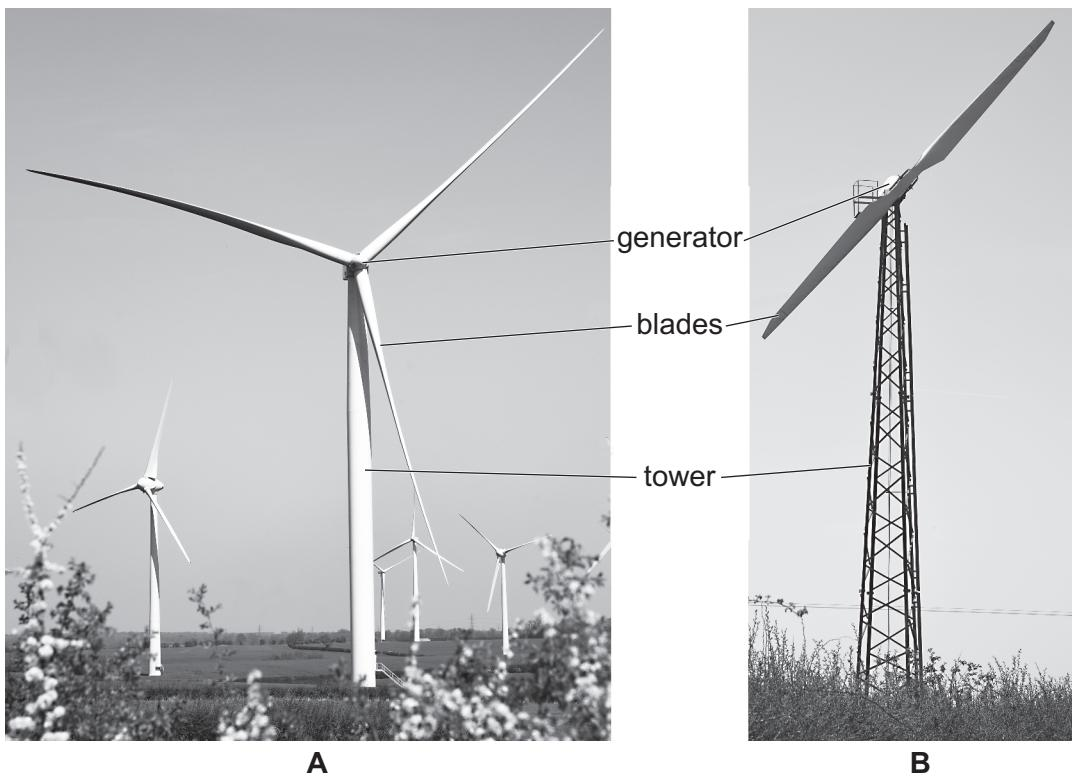

Fig. 9.4
- (d) Fig. 9.4 shows two different types of structure used to support wind turbines.
- (iv) Explain how the turbine towers in Fig. 9.4 maintain equilibrium.